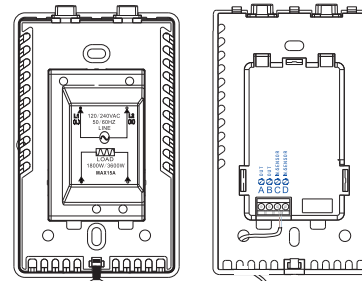

Figure 2
- Connect the thermostat to the load and to the power supply (see figure 2).